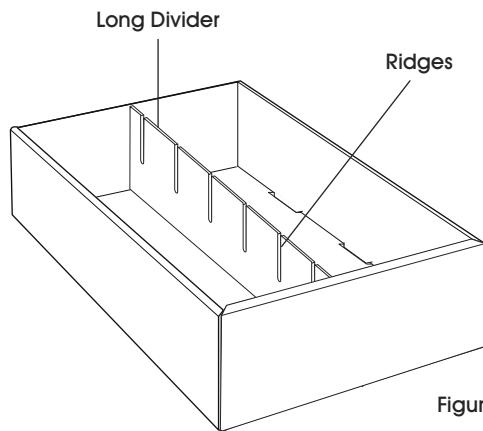

Figure 18
1. Insert long divider into the box as needed, ridges facing upward. (See Figure 18)